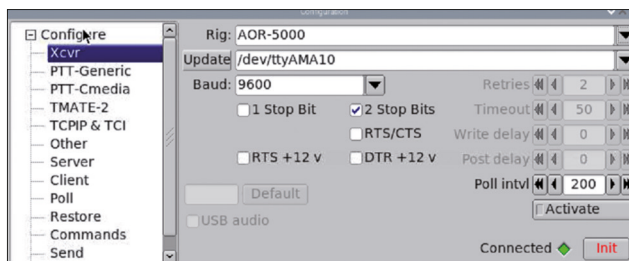

Figure 17.52: Transceiver selection menu.
**Setup** — Select **Setup** to configure for your transceiver (option **Xcvr**) as shown in Figure 17.52. Other options in Setup are: